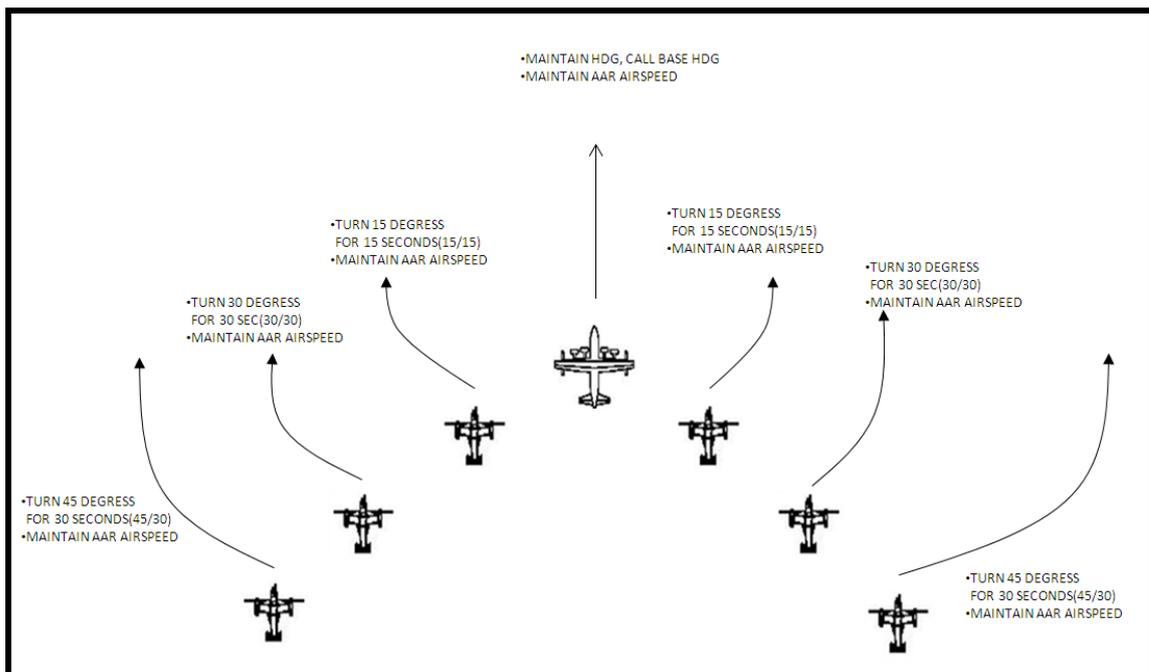

Figure 4-6. Lost Visual Contact, Above MSA (Not to Scale)
- c. After Tanker Assumes Formation Lead-Formation Above MSA: Due to the possibility of simultaneous tanker operations with fixed wing aircraft, reference Fixed Wing procedures (ATP-56 Chapter 2 Section IV, para. 2.30.) for procedures to be executed when tanker operations take place above MSA. (Figure 4-6)